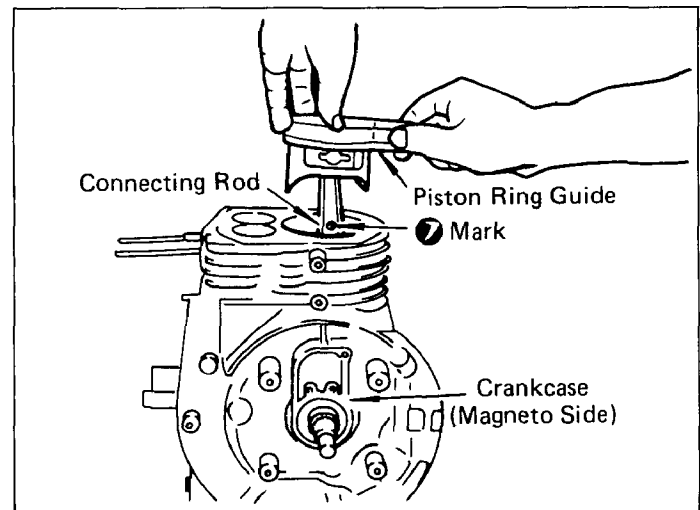

Fig. 25
- 3) When installing the connecting rod into place, hold piston rings with the ring guide as shown in Fig. 25 (if no ring guide is available, keep pressing the piston ring with finger tips and gently strike the top of the piston with a wooden piece or the like to push it in), and check that the symbol  or mark MA on the connecting rod is in the direction of the flywheel magneto.